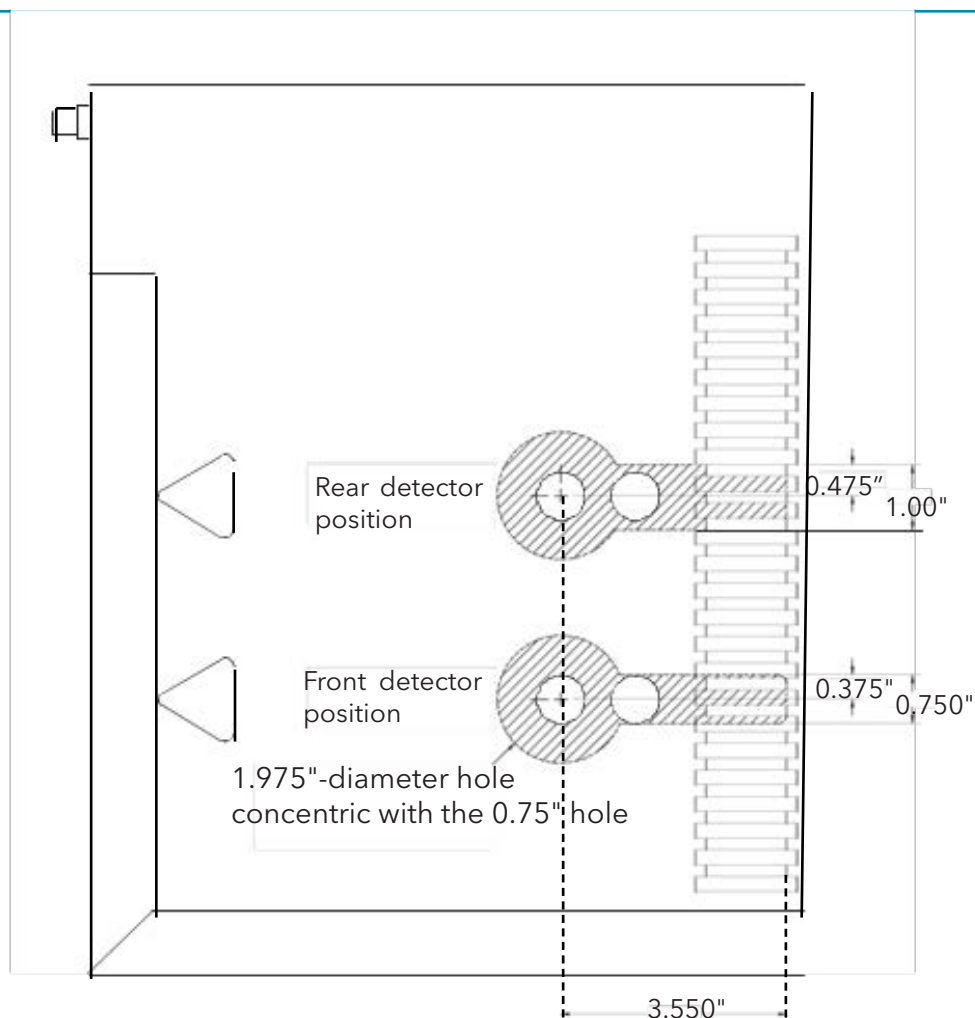

Figure 3.4. Agilent 6890 or 7890 GC Cover Modifications for Mounting the PFPD
9. Optional: Cut a 1.975"-diameter hole in the top of the GC cover concentric with the existing hole (refer to Figure 3.4).